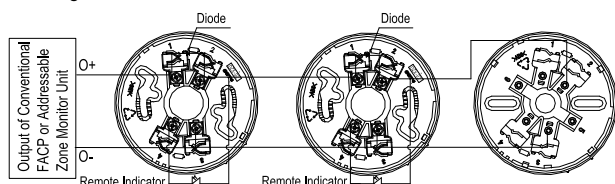

Fig. 5
- When the AEOL is not used as the detector base, a cover should be put on it. The system composition is shown in Fig. 5.